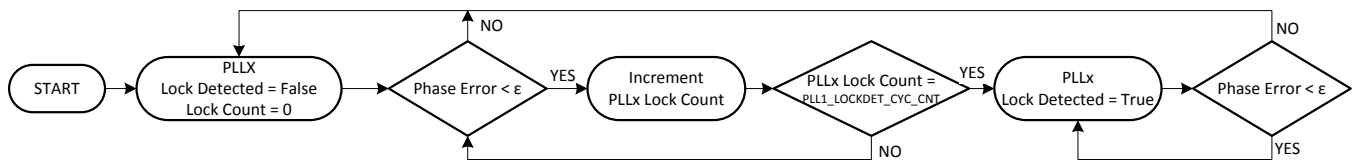

Figure 40. Digital Lock Detect Flowchart
(1) See Table 20 for reference.
Both PLL1 and PLL2 support digital lock detect. Digital lock detect compares the phase between the reference path (R) and the feedback path (N) of the PLL. When the time error, which is phase error, between the two signals is less than a specified window size (ϵ) a lock detect count increments. When the lock detect count reaches a user specified value, PLL1_LOCKDET_CYC_CNT or PLL2_LOCKDET_CYC_CNT, lock detect is asserted true. Once digital lock detect is true, a single phase comparison outside the specified window causes the digital lock detect to be asserted false. This is illustrated in Figure 40.